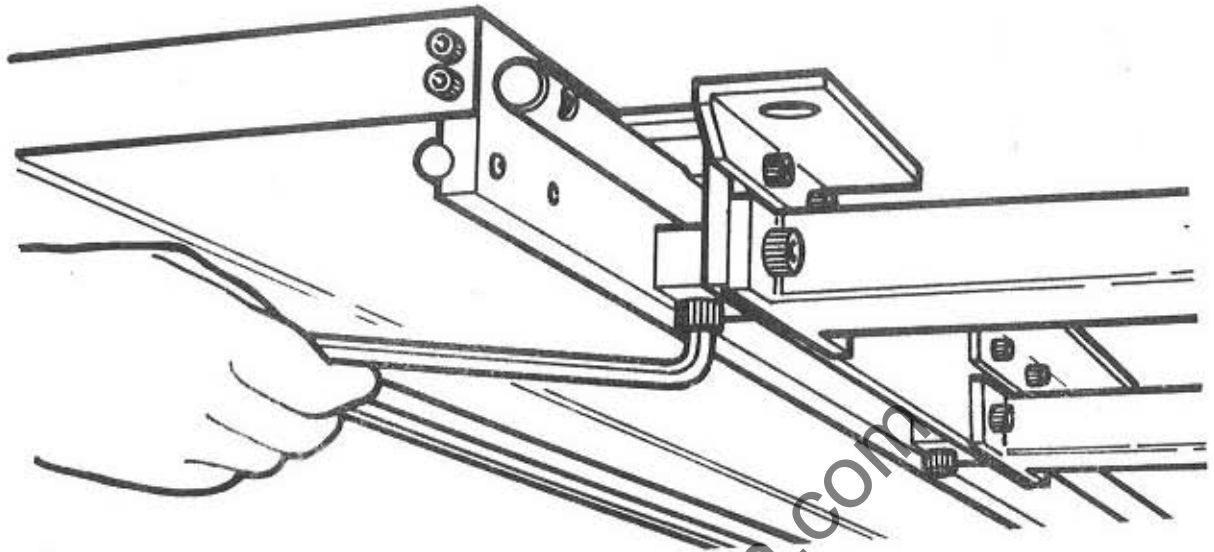

FIG 5
3. Position extension table approx' 3" (76mm) from rear of aluminium sliding table and securely lock in position by socket head capscrews "A" in FIG 5.